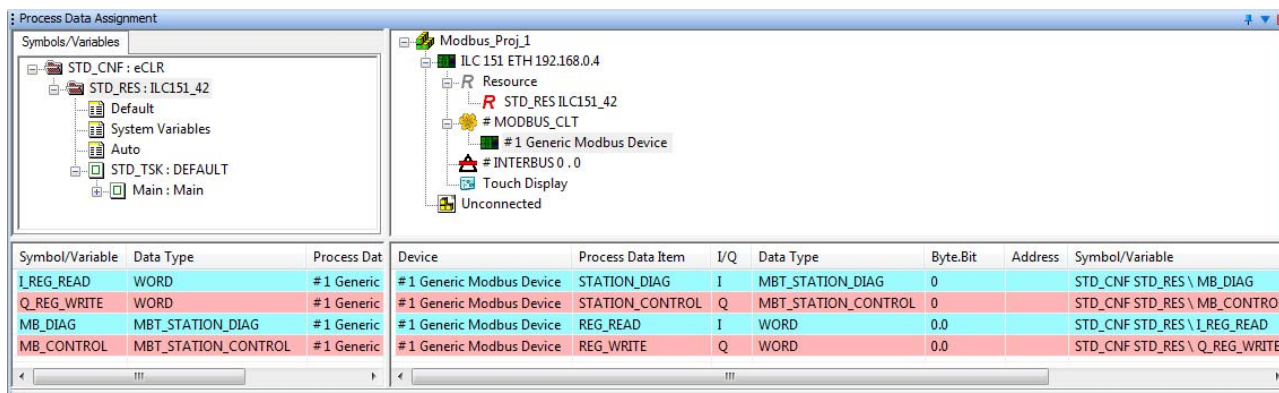

Figure 8 Process data assigned to the diagnostic and control variables
- Switch to the process data assignment workspace to assign the process data to the control and diagnostic variables, as described in Section 5.1.10 on page 9. The result of process data assignment is shown in Figure 8.